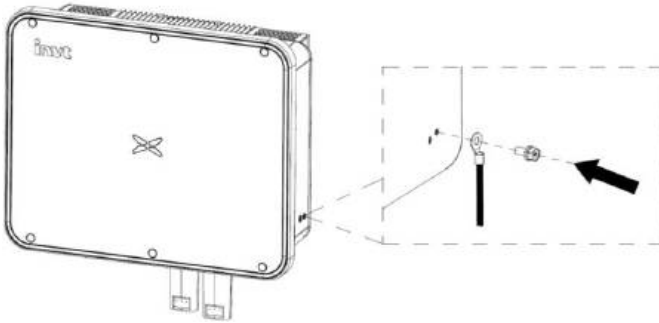

Fig 5.2 PV grounding diagram
(1) As shown in Fig 5.2, connect the output wire of the PV string to the DC connector of the inverter.